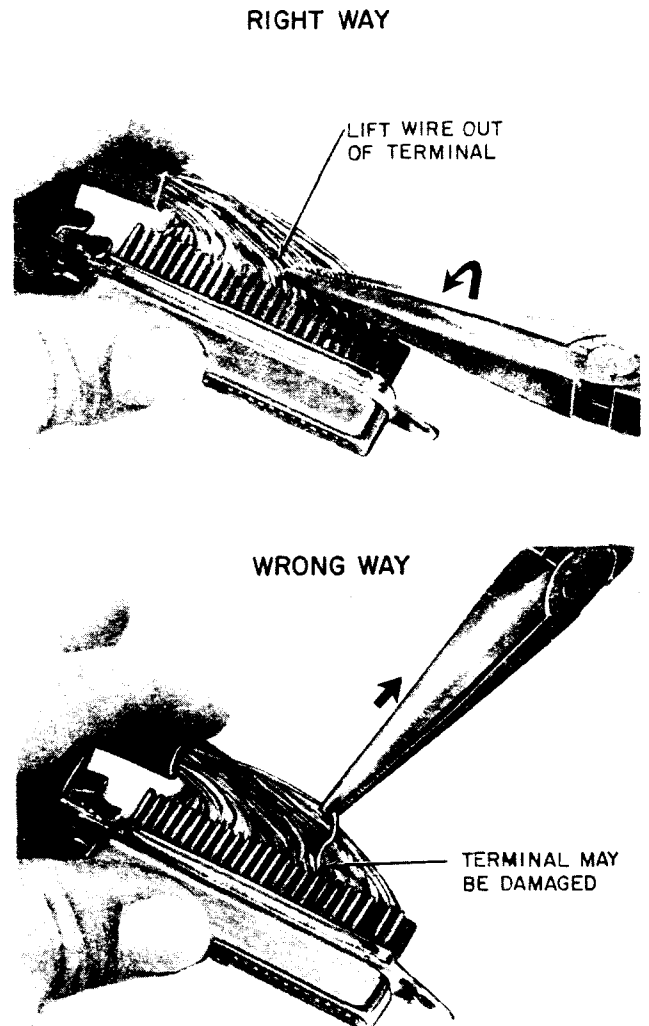

Fig. 14—Removing Terminated Wire
2.48 *Warning: When removing wire, do not pull the wire parallel to the slot as this may damage the terminal so that it cannot be reused.* When wiring changes are required in the field on 153AM2, BM2, AM3, or BM3 adapters, remove wire from terminal by lifting with a rolling motion, using long-nose pliers as shown in Fig. 14. Cut off the used portion of the wire and reterminate using a KS-21872 hand-connecting tool as follows: